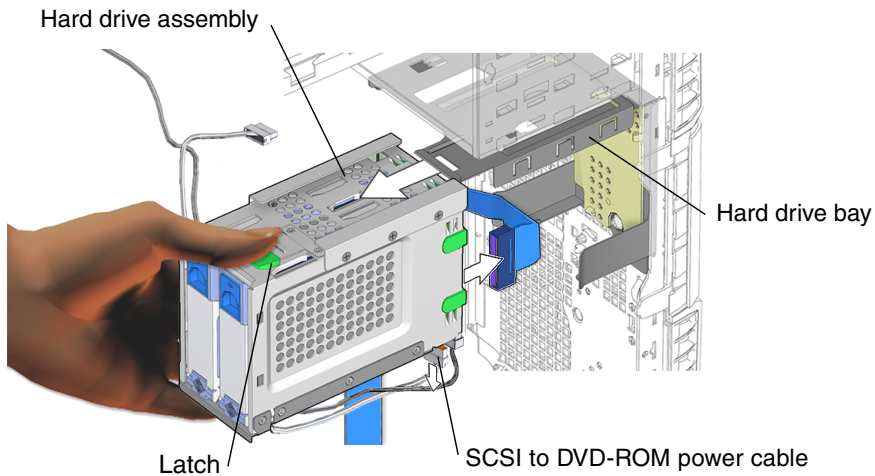

FIGURE 14-6 Removing the Hard Drive Bracket Assembly
9. Remove the hard drive assembly from the hard drive bay (FIGURE 14-6).